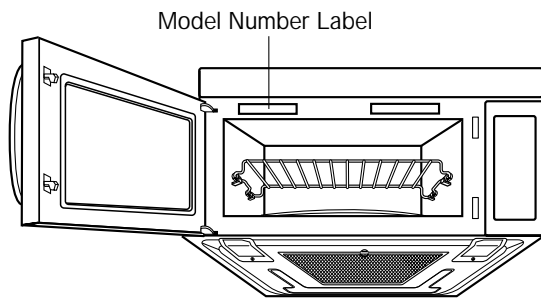

Figure 1
- Read the entire manual before you begin. The Model number label is located on the oven front. See Figure 1.